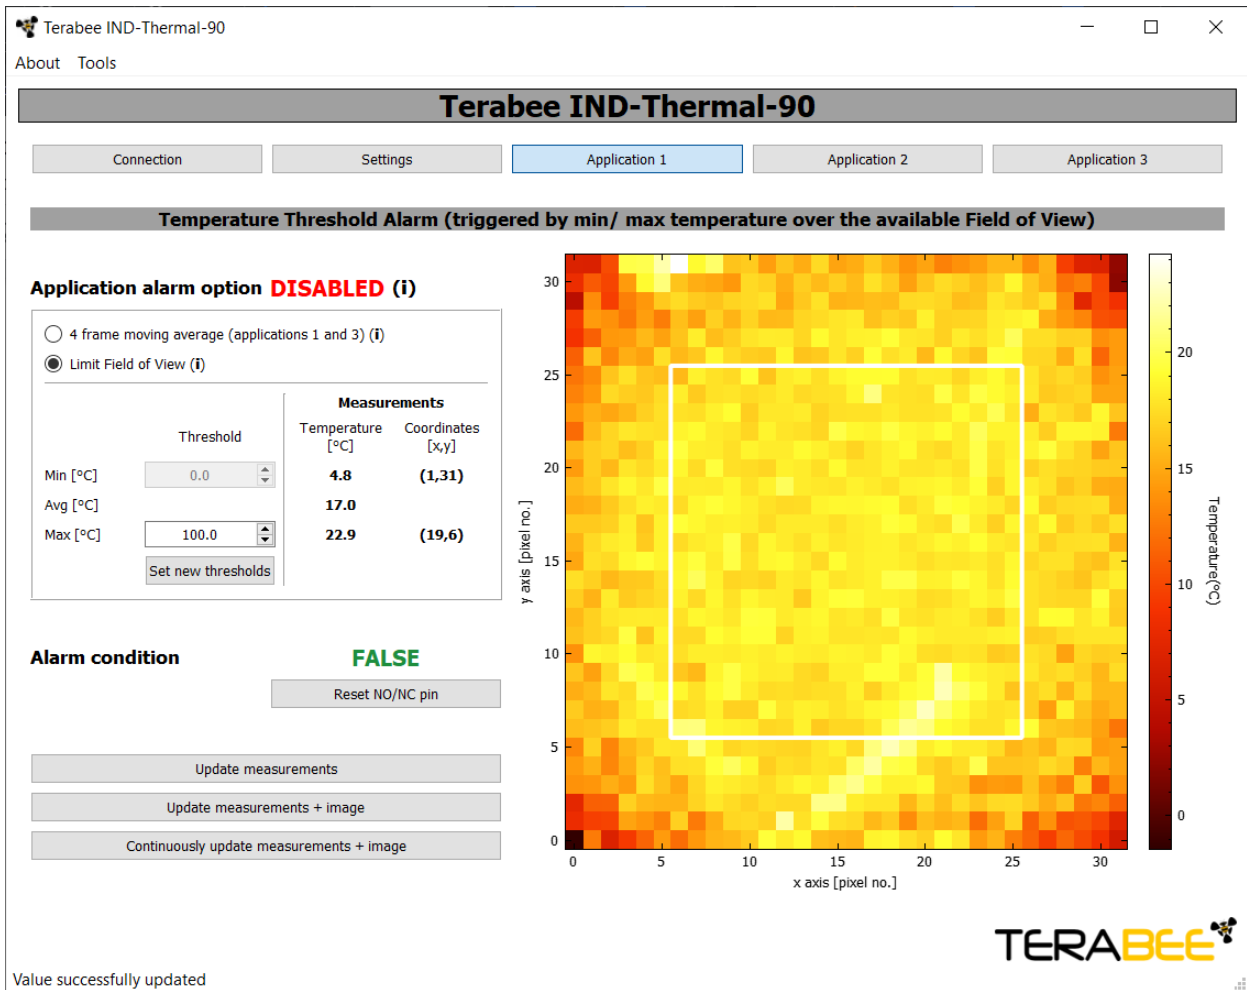

Figure 7. Application 1 tab with Limit Field of View = TRUE
- **Limit Field of View** - checking this button will limit the scanning of Application 1 to the inner 20×20 pixels, thus reducing the impact of the wide angle lens which results in the edges being more noisy. An overlay will be drawn over the image highlighting the area scanned, as shown in Figure 7. Changing this setting corresponds to writing TRUE or FALSE to the Input Coil at address 9 (Application 1 limited FoV flag).